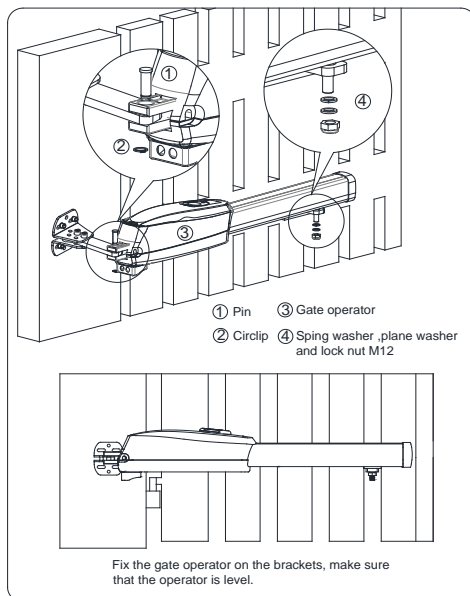

Fig.14
- Install the gate operator as shown in Fig.14.